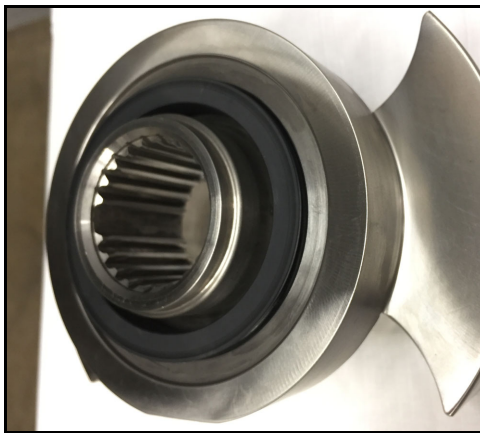

Figure 141 - Rotary seal installed
9. After installing the rotary seal, it should fit solidly in the rotor as shown in Figure 141.